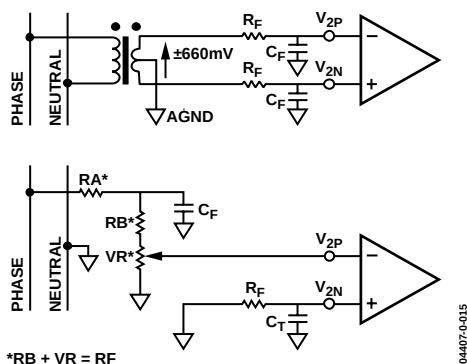

Figure 14. Typical Connection for Channel 2
Figure 14 shows two typical connections for Channel V2. The first option uses a potential transformer (PT) to provide complete isolation from the main voltage. In the second option, the ADE7761 is biased around the neutral wire, and a resistor divider is used to provide a voltage signal that is proportional to the line voltage. Adjusting the ratio of R_A and $R_B + R_V$ is a convenient way of carrying out a gain calibration on the meter.